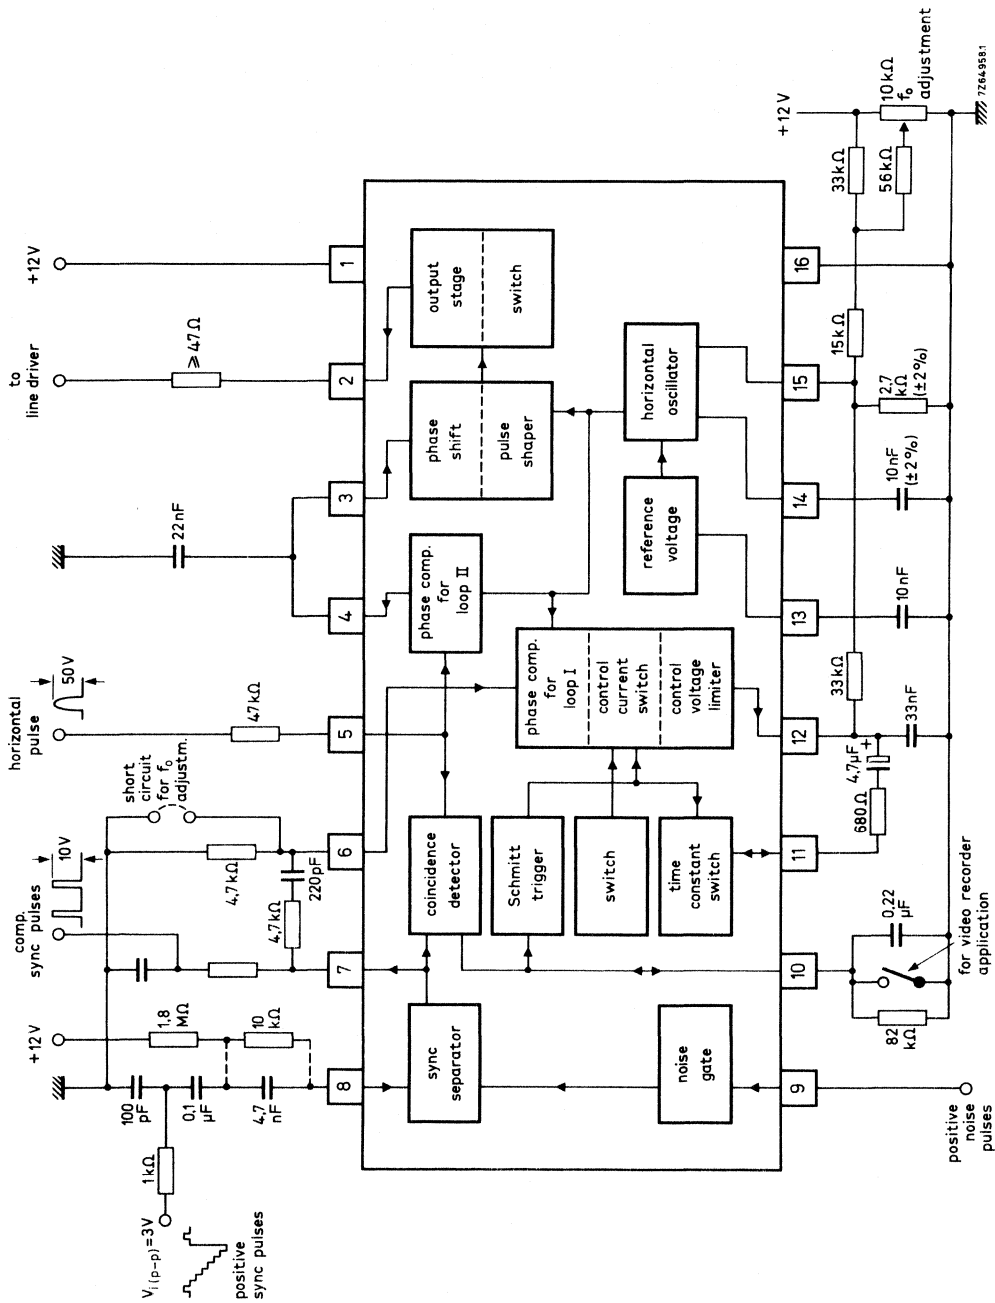

Fig. 1 Block diagram and application information.
**CHARACTERISTICS**At  $V_{1-16} = 12$  V;  $T_{amb} = 25$  °C. Measured in circuit of Fig. 1 (CCIR standard).